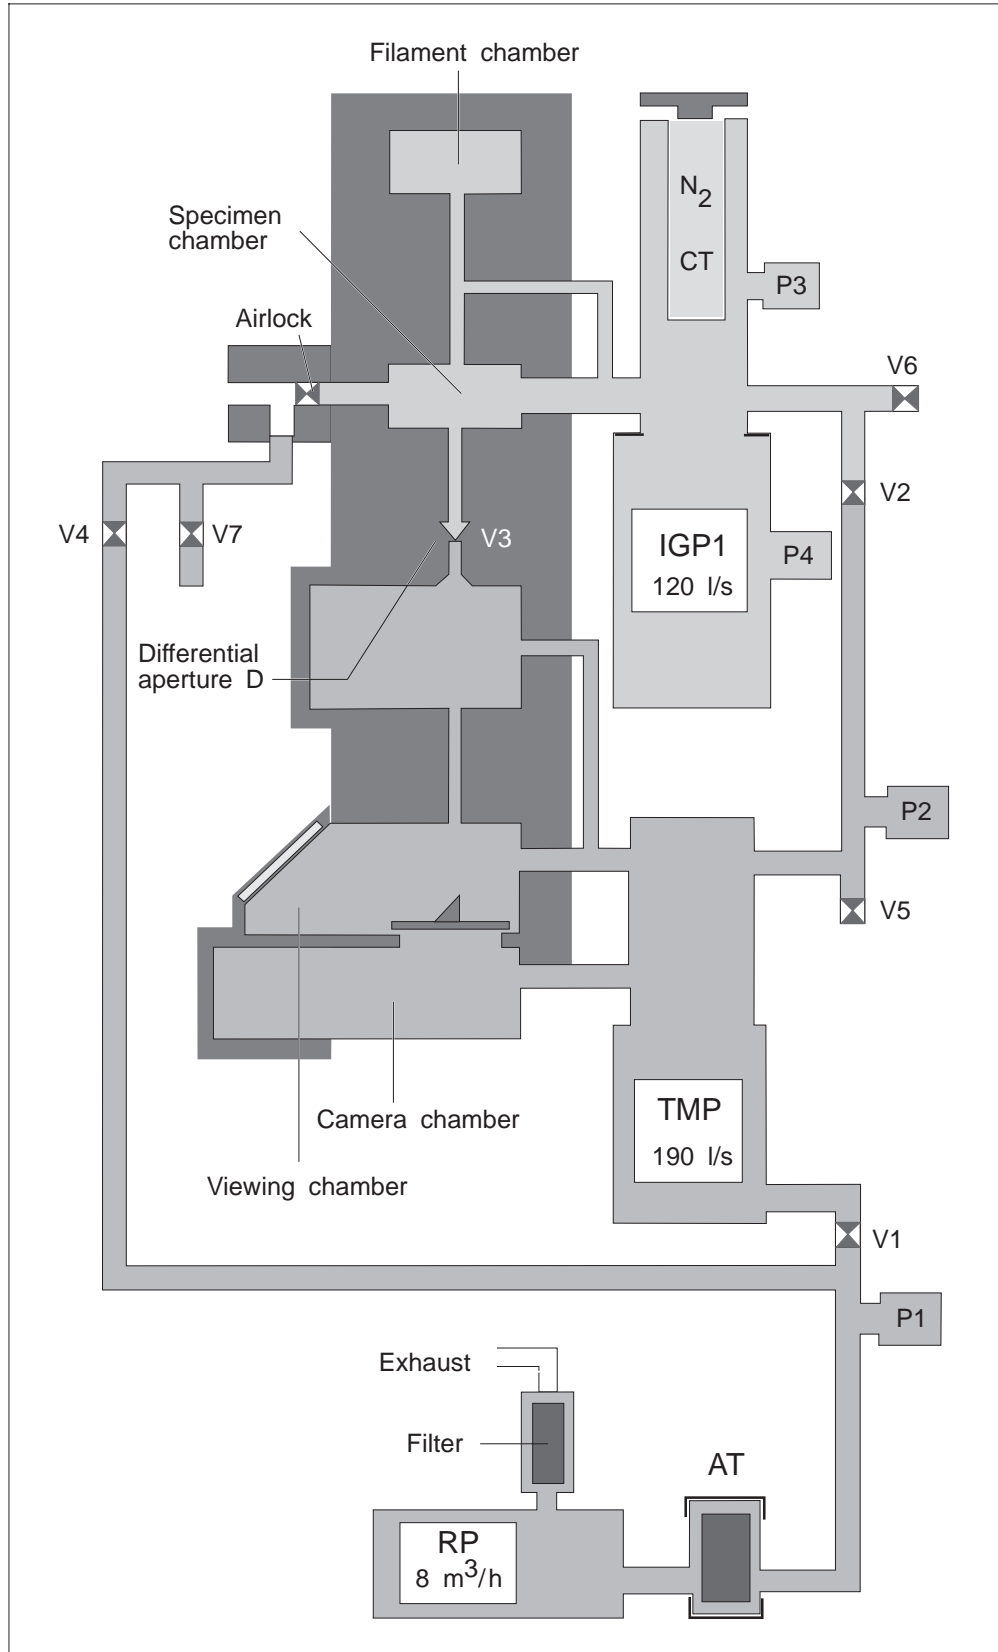

Fig. 1-28a: Vacuum system, pump system with cryotrap
- a nitrogen-cooled cryotrap (see Fig. 1-28a), or